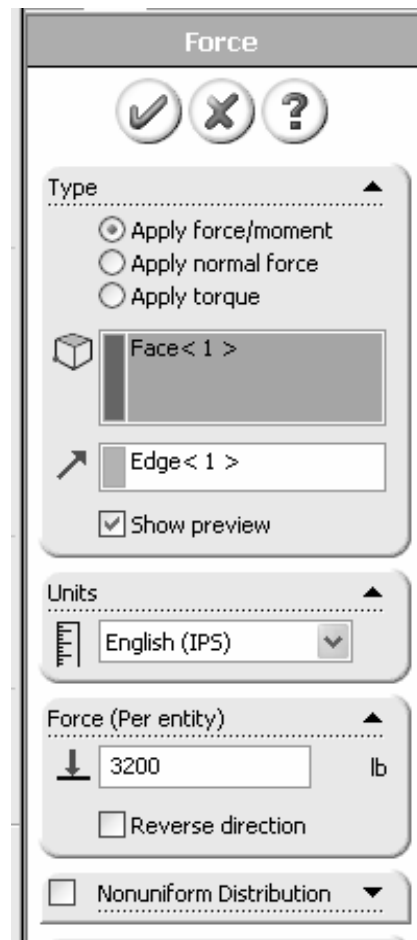

Figure 11 – Specifying a force and its direction on the hole bottom.
12. In the COSMOSWorks manager tree, right-click the **Load/Restraint** icon and from the pop-up menu select **Force...** A partial view of the **Force** property manager appears in Fig. 11.